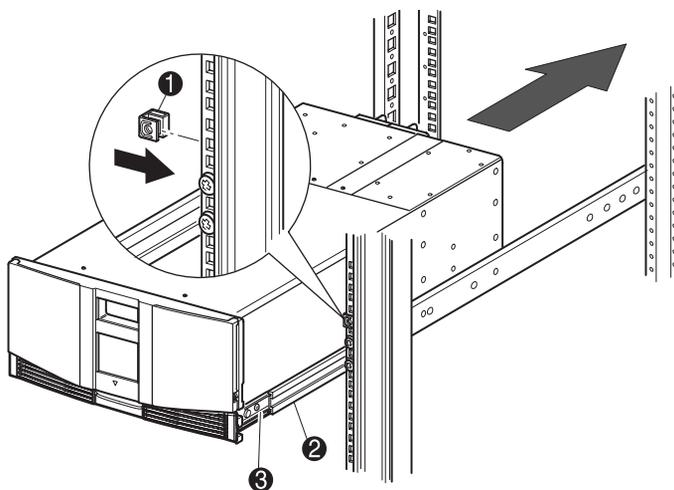

Figure 2–5: Installing the library (Model MSL5026 shown)
11. With the doors open, secure the front panel to the rack enclosure using the two retaining screws (see Figure 2–5). Close the doors.